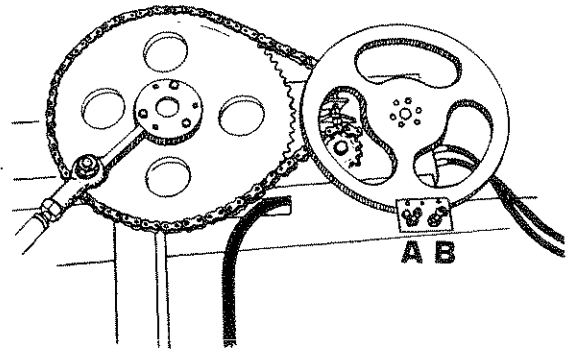

Fig. 35
The knotter brake is used to hold the needle yoke and knotter in the rest position and is always applied. To adjust, compress the springs on screws (A) and (B) to 1 3/4" length, see Fig. 35.